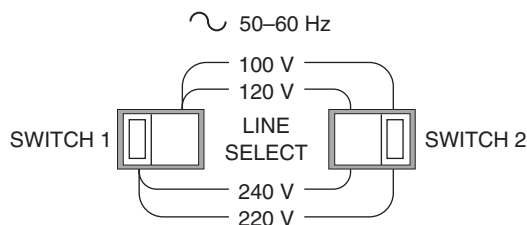

Figure 5 – Rear Panel Power Supply Voltage Switches in Positions with Switch 1 set to Left and Switch 2 set to Right
- Configure the Model 2835-C's power supply voltage selection switches to match the nominal local voltage. See Figure 5 and Table 21.